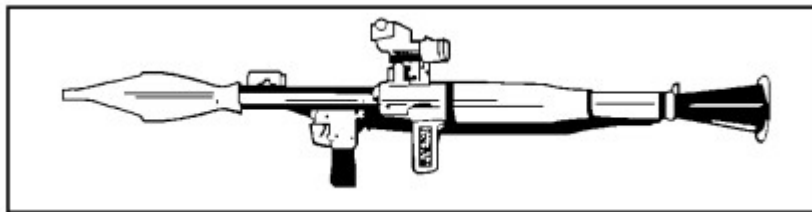

Figure 2-1. Antitank Grenade Launcher RPG-7V.
a. RPG-7V Grenade Launcher. The following paragraphs discuss the RPG-7V Grenade Launcher (shown in Figure 2-1).